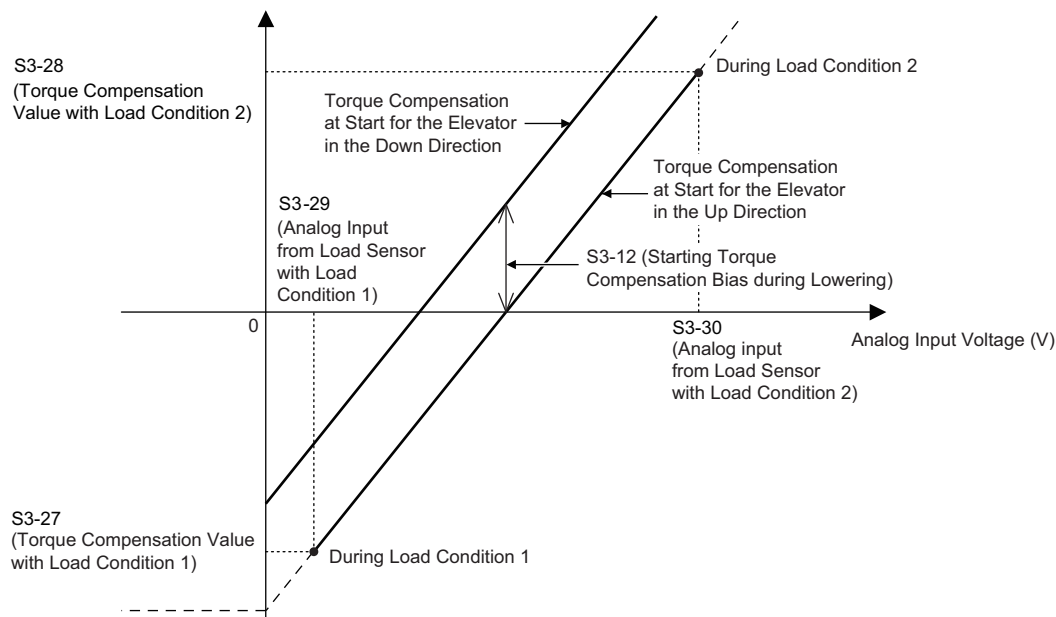

**Figure 4.19 Torque Compensation at start for the Elevator in Up and Down Direction**
*Figure 4.19* shows the Torque Compensation at Start settings with parameters S3-27 to S3-30.
The solid line in *Figure 4.19* indicates the torque compensation at start when the elevator moves up or down.
PRG: 7016 or later have no torque compensation limit when adding negative voltage to analog input voltage (see *Figure 4.19*).